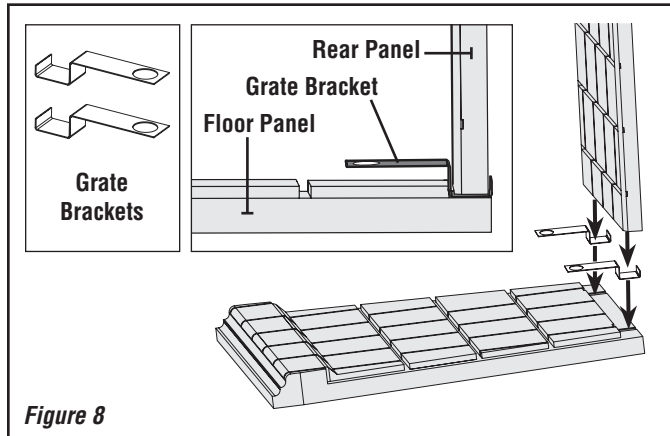

Figure 8
5.1. Refer to **Figure 8, below**. Place the two grate brackets in the indentations in the back recessed edge of the floor panel.
5.3. Place the **BOTTOM EDGE** of the rear panel on top of the two grate brackets (as shown in **Figure 8, above**) and push the rear panel back against the rear wall of the firebox.